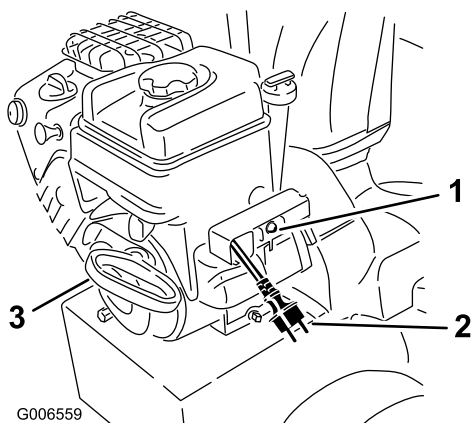

Figure 24
7. Start the snowthrower pulling the recoil starter or pressing the electric-starter button (Figure 24).